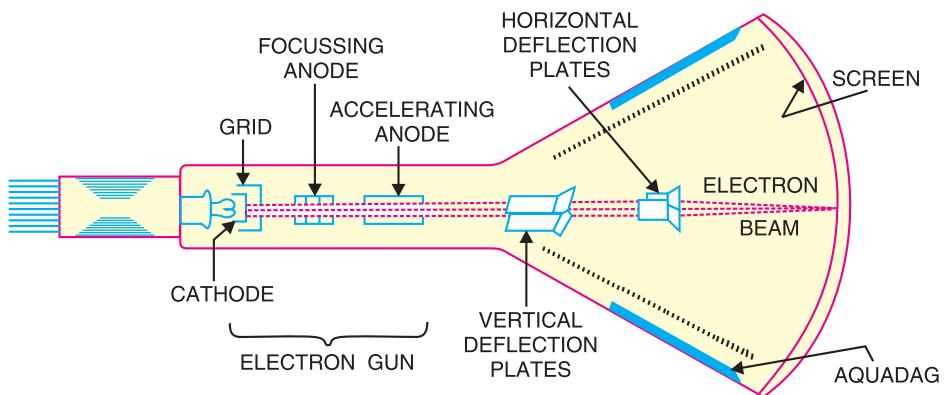

Fig. 22.20
A cathode ray tube (commonly abbreviated as *CRT*) is the heart of the oscilloscope. It is a vacuum tube of special geometrical shape and converts an electrical signal into visual one. A cathode ray tube makes available plenty of electrons. These electrons are accelerated to high velocity and are brought to focus on a fluorescent screen. The electron beam produces a spot of light wherever it strikes. The electron beam is deflected on its journey in response to the electrical signal under study. The result is that electrical signal waveform is displayed visually. Fig. 22.20 shows the various parts of cathode ray tube.
**(iii) Deflection plate assembly.** The deflection of the beam is accomplished by two sets of deflecting plates placed within the tube beyond the accelerating anode as shown in Fig. 22.20. One set is the *vertical deflection plates* and the other set is the *horizontal deflection plates*.